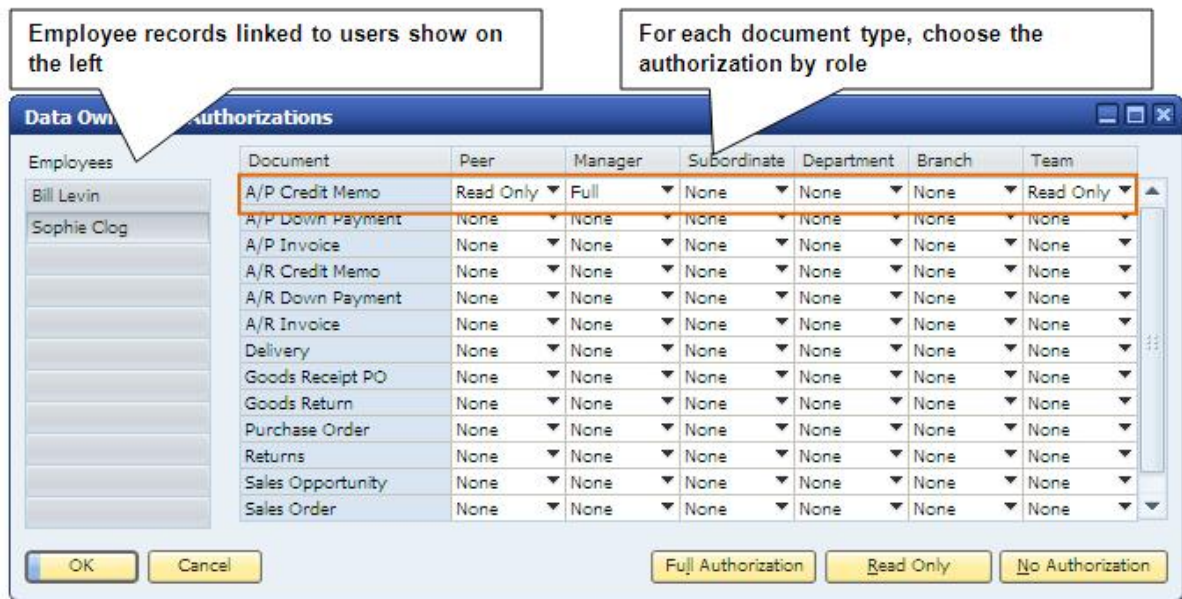

Figure 10-4: Define Data Ownership Authorizations
- 5) Finally you need to define the relationship between employees, go to *Administration* → *System Initialization* → *Authorizations* → *Data Ownership Authorizations*. See Figure 10-4 for setting up data ownership authorizations.